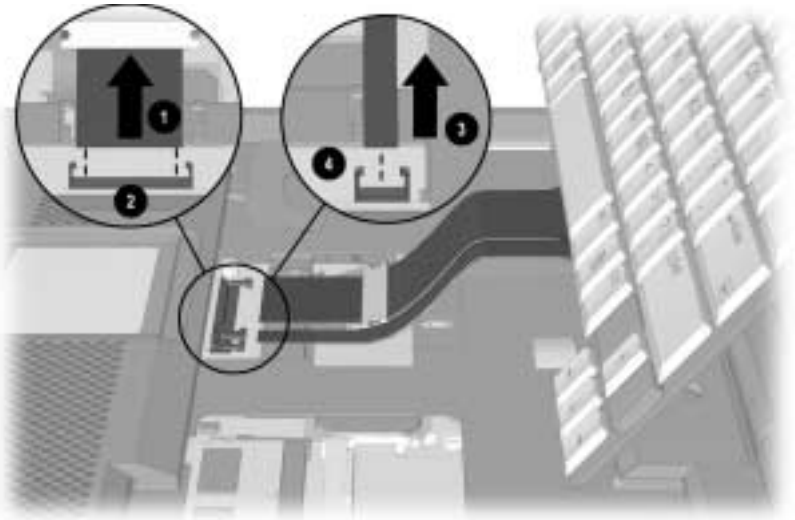

Figure 5-9. *Releasing and Disconnecting the Keyboard Cables*
8. Release the ZIF (Zero Insertion Force) connector that connects the keyboard cable **1** (Figure 5-9).